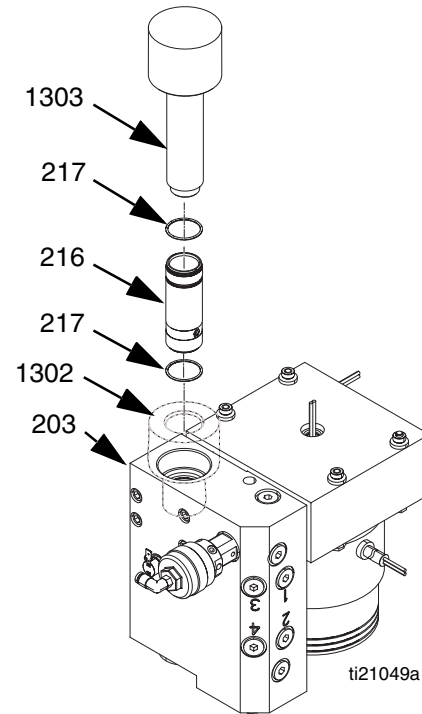

FIG. 38
2. Place female cylinder installation tool (1302) into melter outlet manifold (203) to protect seals from sharp threads. See FIG. 38.
3. Use male cylinder installation tool (1303) to press cylinder (216) into melter outlet manifold (203). If necessary, use rubber mallet tap into place. See FIG. 38.